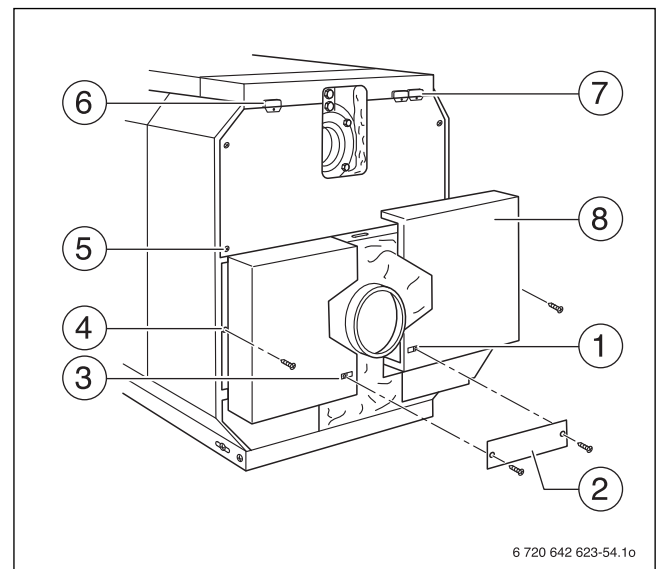

Fig. 56 Installing the rear boiler panel sections
- ▶ Insert snap nuts into the left and right-hand side panels and also the rear boiler panel sections (→ Fig. 56, [1, 3, 4, and 8]).
- ▶ Hang the bottom rear boiler panel sections on the left and right into the slots in the folded edge of the upper rear boiler panel and the side panel (→ Fig. 56, [5]).
- ▶ Screw the connecting plate (→ Fig. 56, [2]) below the flue outlet to the rear boiler panel sections using self-tapping screws.
- ▶ Fasten the plastic cable entries to the left or right-hand side of the upper rear boiler panel (→ Fig. 56, [6 and 7]).